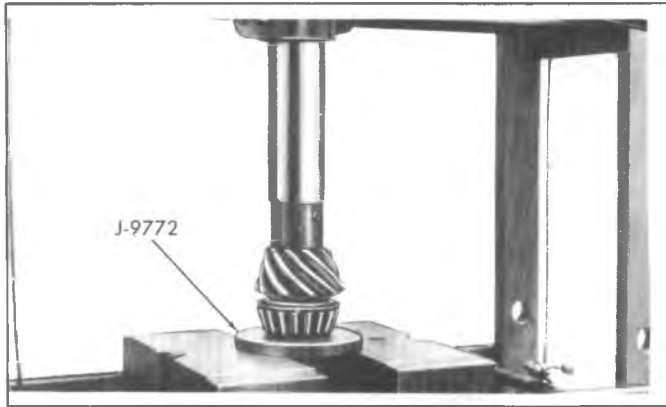

Fig. 4C-13--Installing Inner Pinion Core and Roller
7. Install shims and outer pinion cone and roller on pinion shaft using Tool J-5590 and companion flange to press bearing onto pinion (Fig. 4C-14).